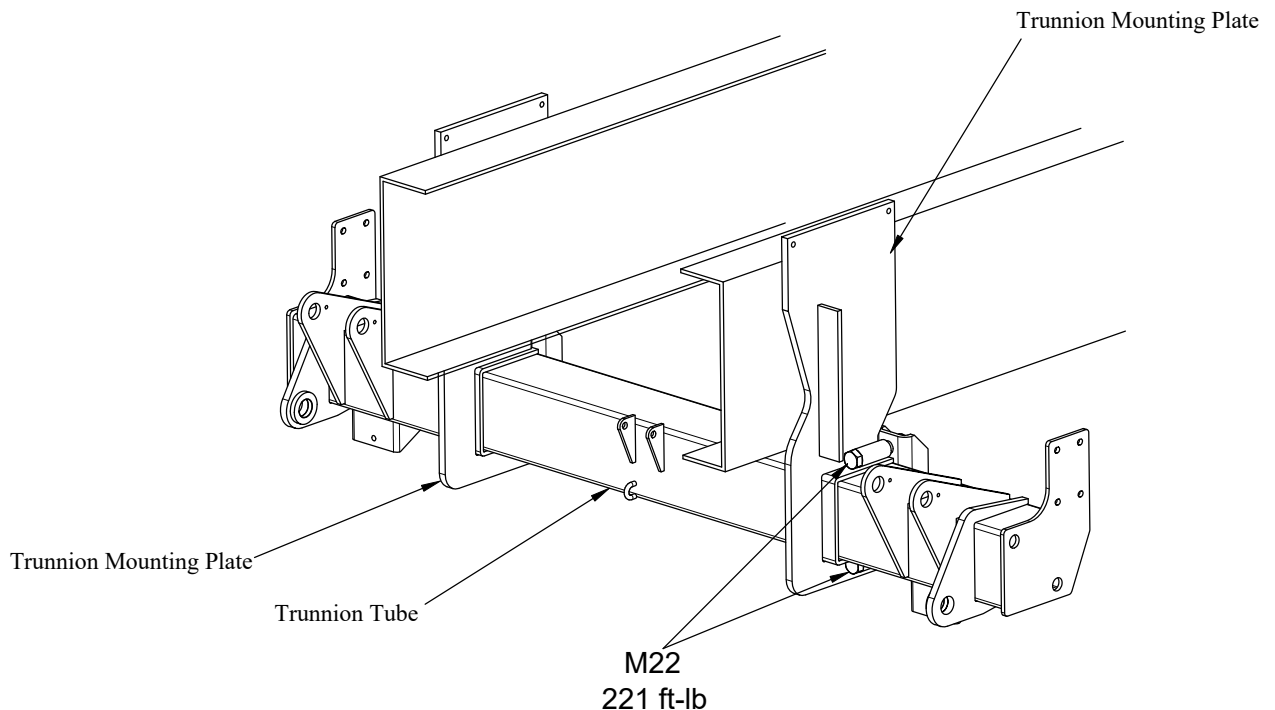

Figure 16: Platform Installation.
7. **Install** the two trunion mounting plates onto the trunion using provided M22 bolts (Figure 16). Do not tighten the clamps at this time.